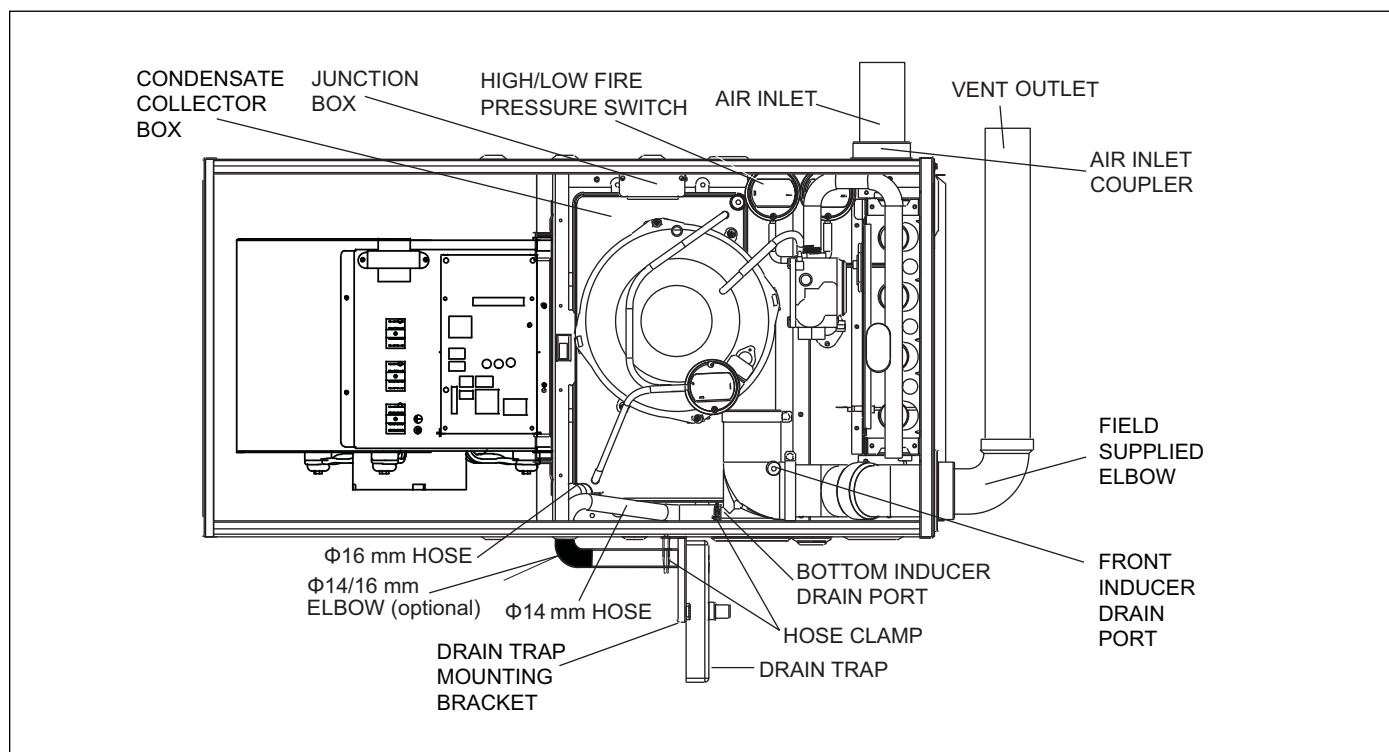

Figure 15 Horizontal Right-Hand Side Installation
**For installations with right air discharge and venting outlet through furnace top panel (see Figure 15).**